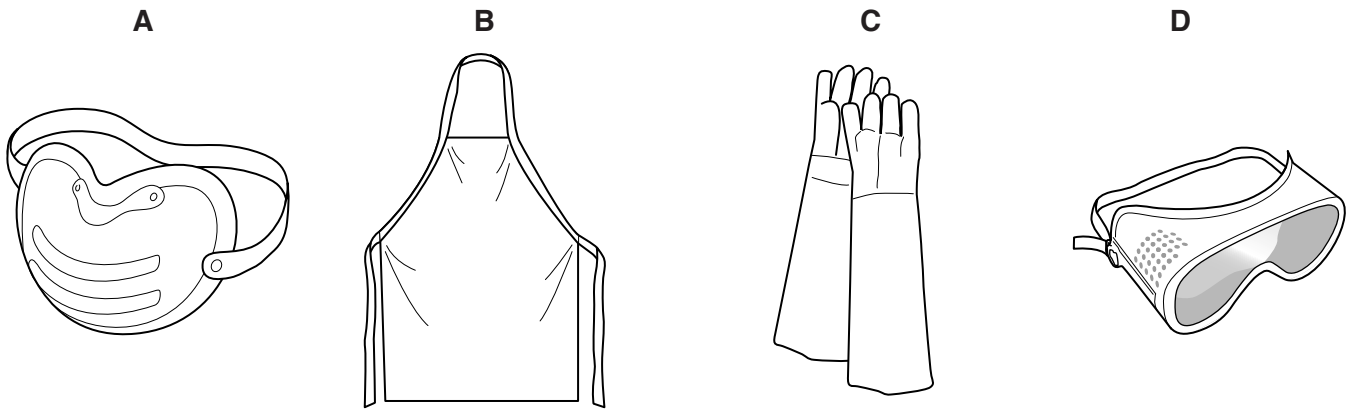

Fig. 8
13 Fig. 8 shows items of personal protection equipment that would be used in workshops.
- (a) Name and describe a specific use for each item of personal protection equipment shown in Fig. 8. [8]